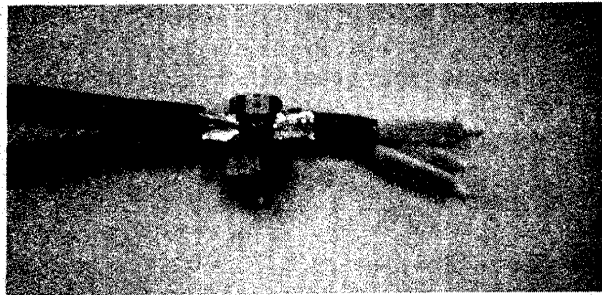

Figure 16
- 4.11 Join the respective service wire conductors using B Wire Connectors and the B Connector Pressor as shown in Figure 16.